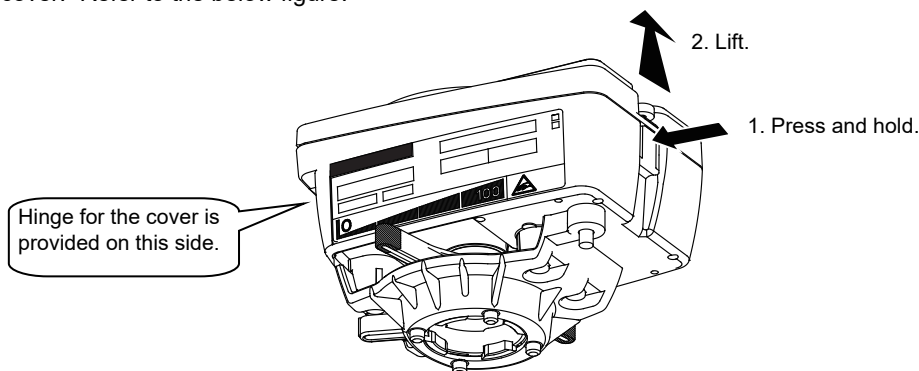

Figure 15. Cover removal
- 1) Press and hold the latch (snap-fit design) to lift the top cover. Disassemble the hinge (on the other side of the actuator) to remove the cover. See Fig. 15 for removing the top cover.